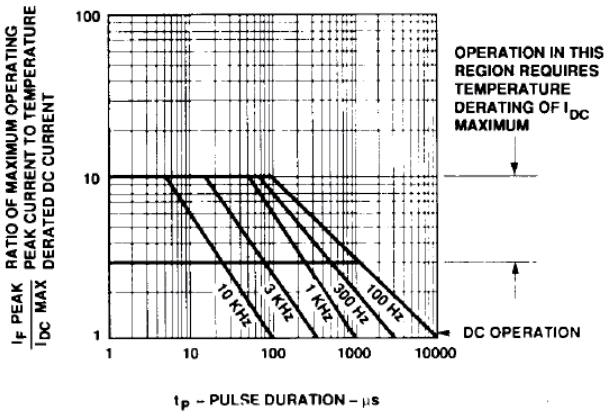

Figure 7. Maximum Tolerable Peak Current vs. Pulse Duration – HER
3. See Figure 7 to establish pulsed conditions.